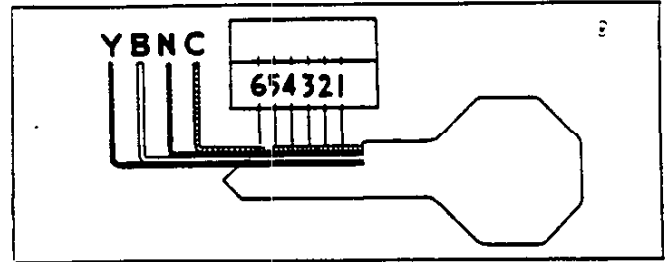

Fig. 8—Tumbler Requirement Diagram
In cases where a code book is not available, the diagram as shown in Figure 8 may be used to determine the tumblers required to assemble an un-coded lock cylinder.
1. Lay the key on the diagram (fig. 8) with the bottom of the key flush with the edge of the drawing head and point carefully lined up.